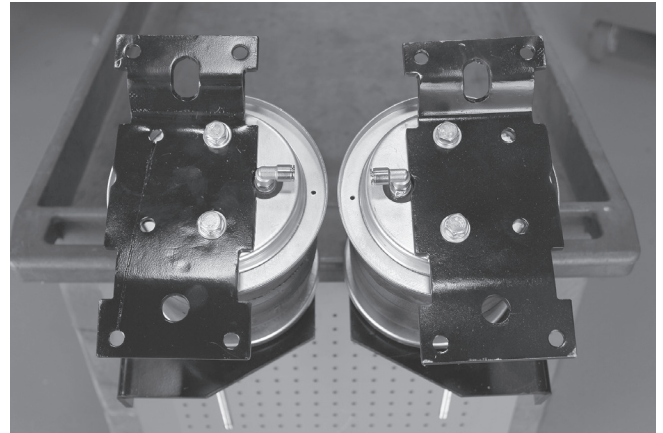

Fig. 15
7. Figure 15 shows the driver's (left) side and passenger's (right) side assemblies.